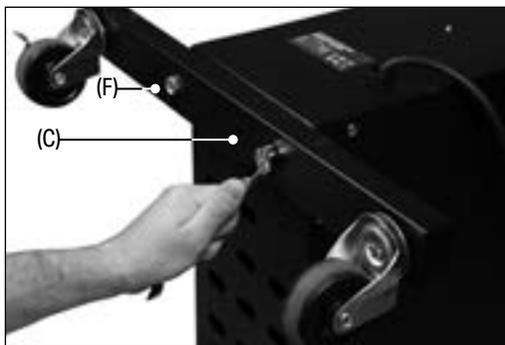

Fig. 1
1. Attach the two wheel frames to the heater unit (Fig. 1).
- a. Lay the heater on its side so that the power cable and power switch (1) are facing upward.
- b. Position the wheel frames (C) against the base of the heater so that the holes align.